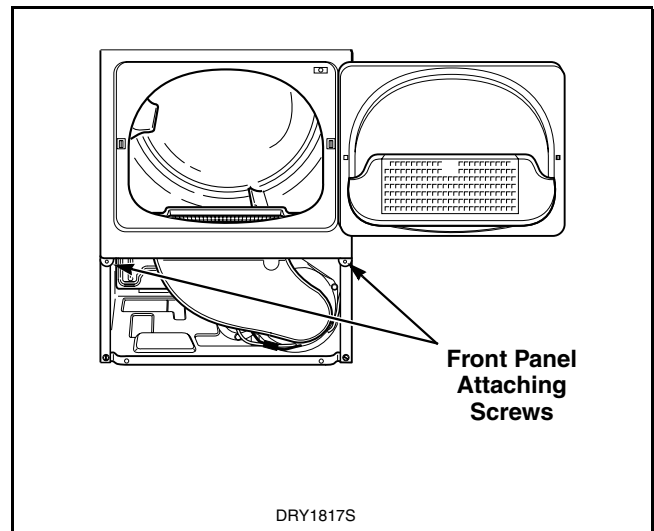

Figure 9
- c. Remove two screws holding bottom tabs on front panel to dryer cabinet. Refer to *Figure 9*.
- c. Remove two screws holding bottom tabs on front panel to dryer side panels. Refer to *Figure 9*. Swing bottom of front panel away from dryer far enough to disengage hold-down clips and locators from cabinet top.
- c. Remove two screws holding tabs on front panel to dryer side panels. Refer to *Figure 9*. Swing bottom of front panel away from dryer far enough to disengage hold-down clips and locators from cabinet top.